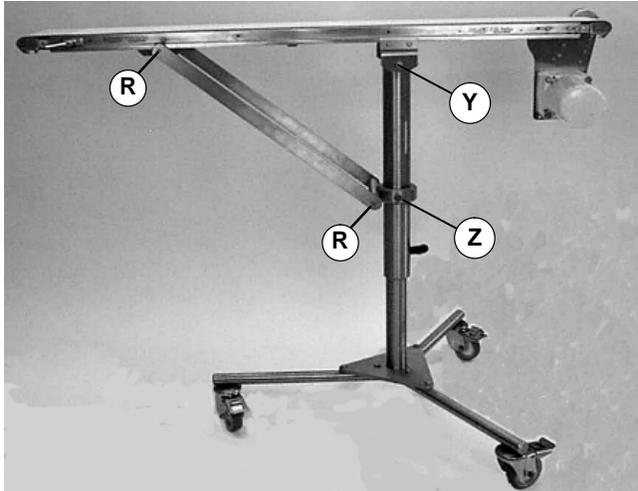

Figure 30
Before loosening any of the angle adjustment screws (R, Y & Z of Figure 30) make sure that all related conveyor sections are securely supported to prevent movement that could cause serious personal injury.
- 1a. Loosen (but do not remove) hardware (R & Z of Figure 30).
- 2a. Loosen (but do not remove) the M8 x 16 mm stand ear mounting screw (Y) on each side.
- 3a. Adjust conveyor to desired angle and secure screws (R & Y) to 18 ft-lb (25.5 Nm) torque. Secure screw (Z) to 75 in-lb (8.5 Nm) torque.
Make sure all angle adjustment screws (R, Y & Z of Figure 30) are secured after the desired conveyor angle is adjusted. Failure to secure screws could cause serious personal injury.
Before loosening any of the angle adjustment screws (Y of Figure 30) make sure that all related conveyor sections are securely supported to prevent movement that could cause serious personal injury.
- 1b. Loosen (but do not remove) the M8 x 16 mm screw (Y of Figure 30) on each side.
- 2b. Adjust conveyor to desired angle and secure screws (Y) with 18 ft-lb (25.5 Nm) torque.
Make sure the angle adjustment screws (Y of Figure 30) are secured after the desired conveyor angle is adjusted. Failure to secure screws could cause serious personal injury.